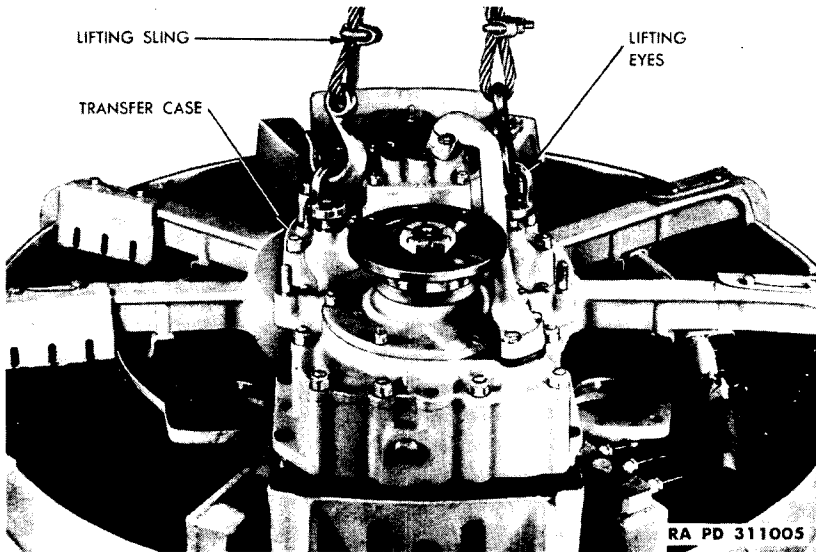

Figure 4 — Removing Transfer Case, Using Sling 5A2228 and Eyes 5A2317
a. Remove transfer case (fig. 4). Remove oil cooler inlet tube. Remove transfer case input gear bearing cage cover from the transfer case and remove cotter pin and nut from clutch spindle shaft which is exposed when cover is removed. Remove nuts securing transfer case to support, and lift transfer case from support using two lifting eyes (5A2317) on cranking motor bracket studs.